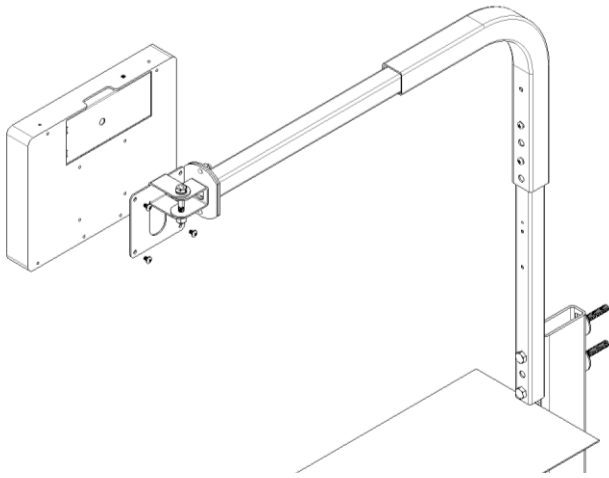

Fig. 14. ePVM to the VESA plate
- Attach the ePVM to the VESA plate using (4) M4 screws. See Fig. 14.